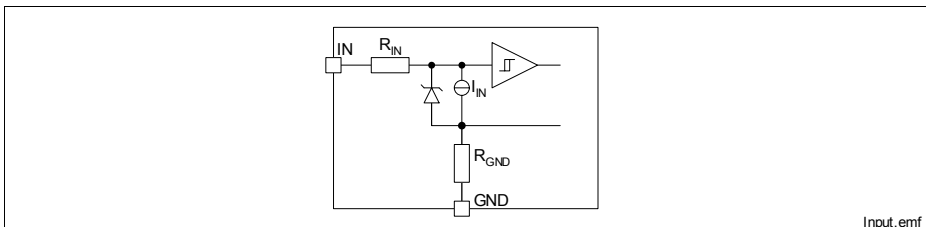

Figure 5 Input Circuit (IN1 and IN2)
**Figure 5** shows the input circuit of the BTS5231-2GS. There is an integrated input resistor that makes external components obsolete. The current source to ground ensures that the device switches off in case of open input pin. The zener diode protects the input circuit against ESD pulses.